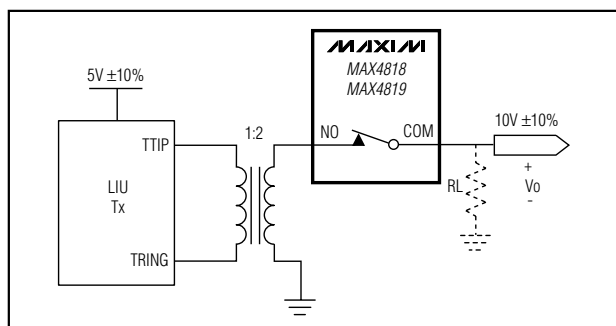

Figure 1. Fault Protection
The fault protection of the MAX4818/MAX4819 allows the devices to handle input signals of more than twice the supply voltage without clamping the signal, latching up, or disturbing other cards in the system. The device detects when the input voltage drops below the negative supply. As soon as a fault condition is detected, the switch is immediately turned off for 128 clock cycles (typically 128μs). At the end of the 128μs time-out, the switch is turned back on for one clock cycle. At the end of the one clock cycle, if the signal is within the operating range, the switch will remain on. Otherwise, the device will turn the switch off again for 128 clock cycles. This will repeat until the signal is within the operating range. In T1/E1 redundancy applications, this can happen when the load resistor (RL) is removed or disconnected for any reason, as shown in Figure 1. Without a load resistor, the output voltage when using a 1:2 transformer can be as high as ±11V.